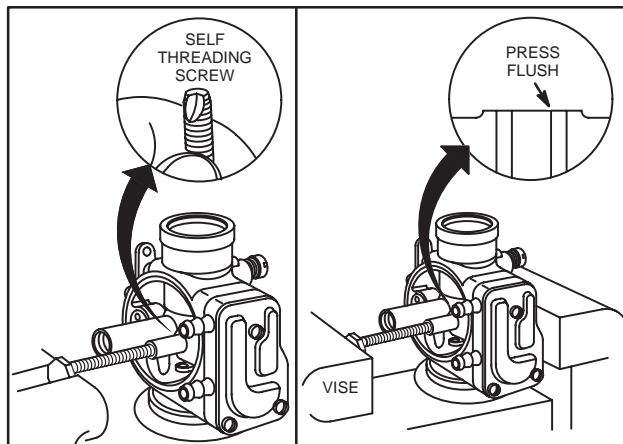

Fig. 287 – REPLACING FLOAT VALVE SEAT
2. Turn carburetor body to thread screw into inlet seat, Fig. 287.
5. Press new inlet seat flush with body using screw and old seat as a driver, Fig. 287. Use care to ensure seat is not pressed below body surface or improper float to float needle valve contact will occur.